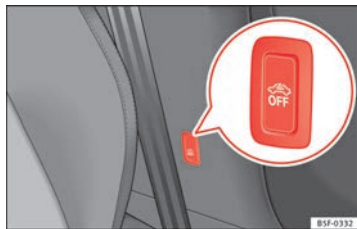

Fig. 51 Vehicle interior monitoring/tow-away protection button. ▶
- To switch off the vehicle interior monitoring and tow-away protection, switch off the ignition and press button → Fig. 51. The indicator on the button will light up.